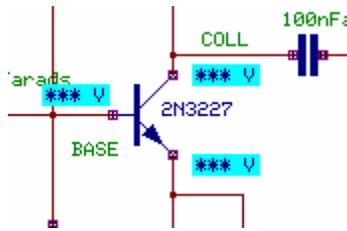

Fig. 6.6
1. Right click and select the  **Test Points** function tool. Select the  **Voltage TP** and place the test points at the base, collector and emitter of the transistor 2N3227 (Refer Fig. 6.6).